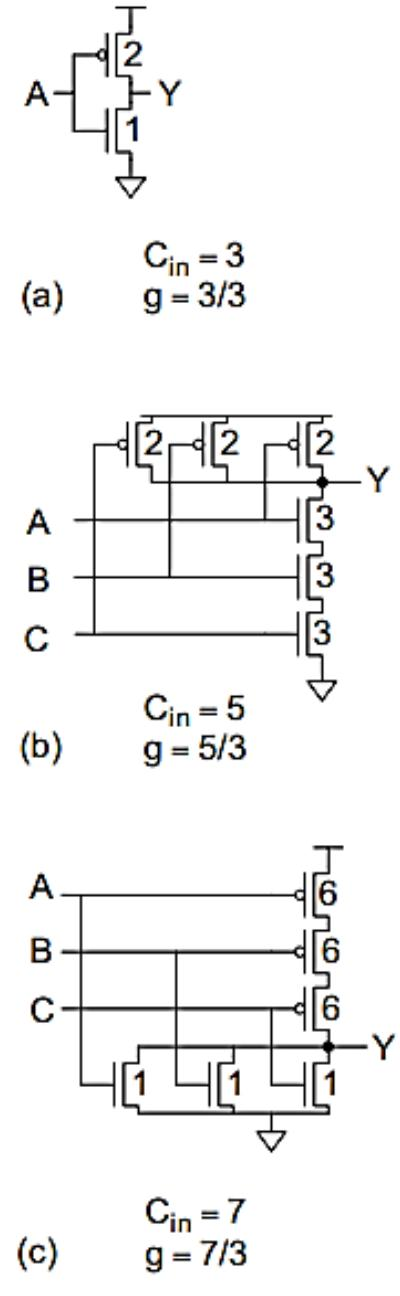

FIGURE 4.22 Logic gates sized for unit resistance
2. Parasitic delay (P)
- For example, consider the gates in Figure 4.22, transistor widths were chosen to give a resistance of R in each gate.